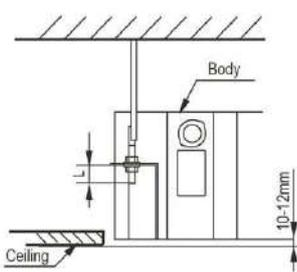

fig.6
- Adjust the position to ensure the gaps between the body and the four sides of ceiling are even. The body's lower part should sink into the ceiling for 10~12 mm (refer to fig.6).
- In general, L is half of the screw length of the installation hook. (refer to fig.6)